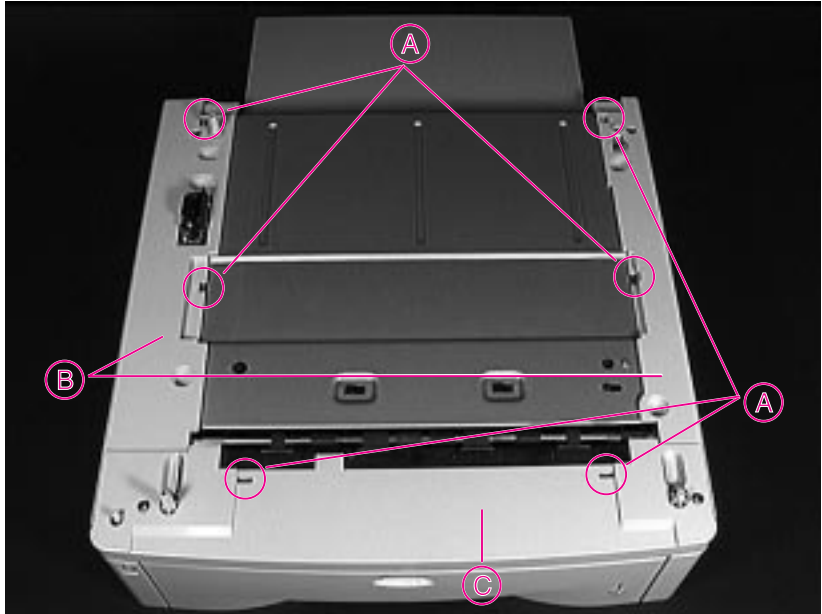

Figure 6-63 Optional 500-sheet Tray (top view)
- 3 Remove screw (see Figure 6-63, Item B).